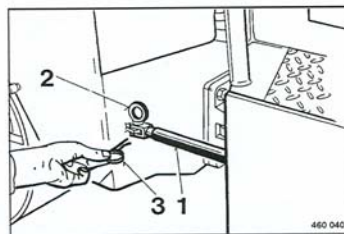

Fig. 48
- After driving the machine on the transport vehicle swing the articulation lock 1 (Fig. 48) out of its receptacle to the front. Insert the pin (2) and secure it with the cotter pin (3).